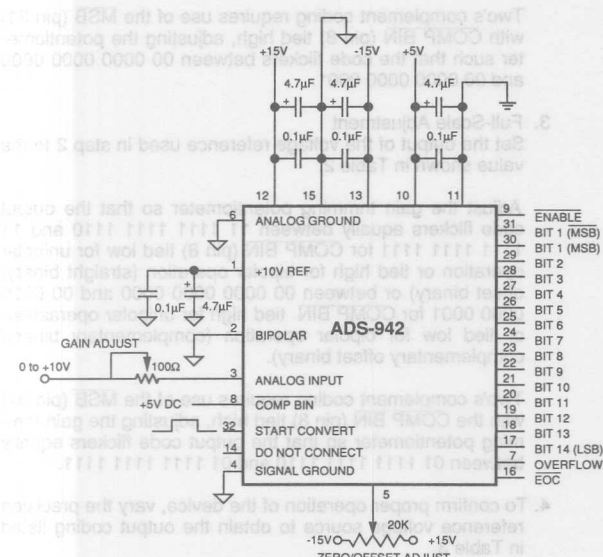

Figure 3. Typical ADS-942 Connection Diagram
1. Connect the converter per Figure 3, and Table 1 for the appropriate full-scale range (FSR). Apply a pulse of 35 nano-seconds minimum to the START CONVERT input (pin 32) at a rate of 200 KHz. This rate is chosen to reduce flicker if LED's are used on the outputs for calibration purposes.